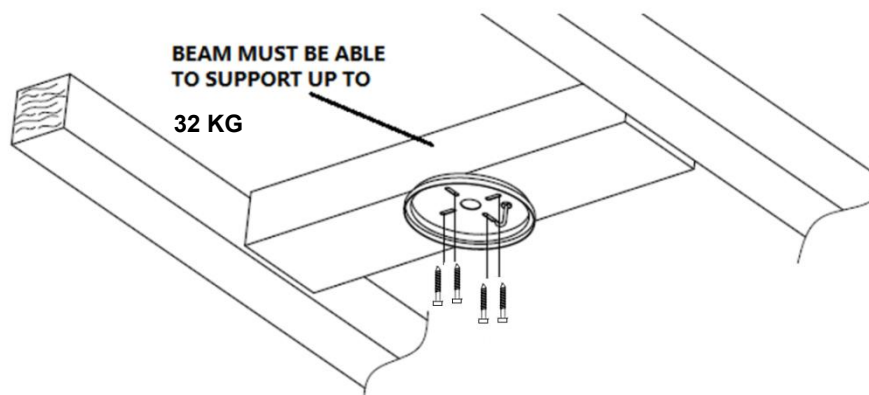

Fig. 2
- Install the hanging bracket to the ceiling joist or structure that is capable of carrying a load of at least 32kg, with the 4 long screws provided. Ensure at least 30mm of the screw is threaded into the support. (Fig. 2)